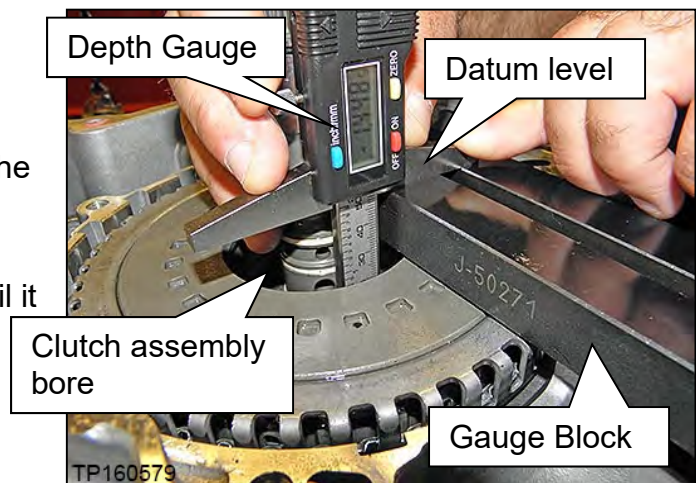

Figure 114
- c. Position the Depth Gauge on the Gauge Block (Figure 114).